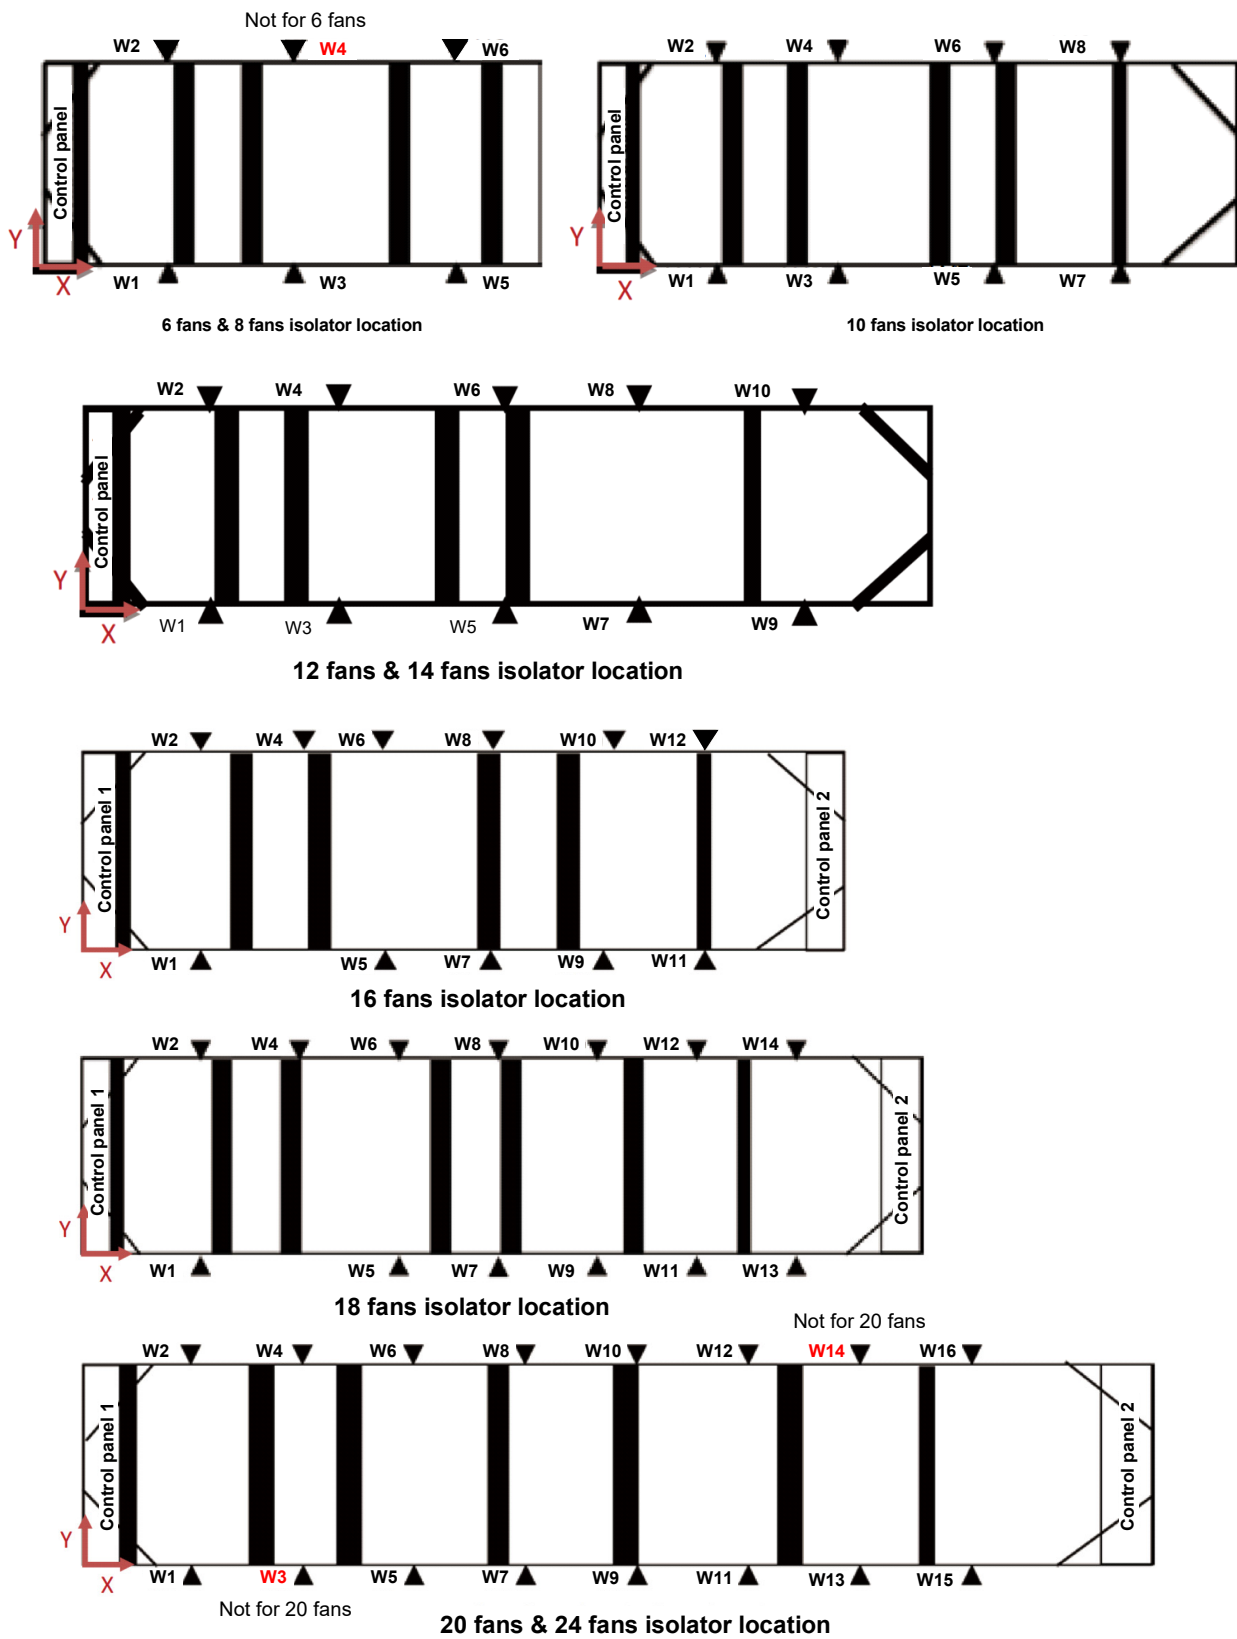

Figure 19. Isolator location
1. Install the isolators according to Figure 19 & Table 32 location, and Table 33 & Table 34 isolator selections.